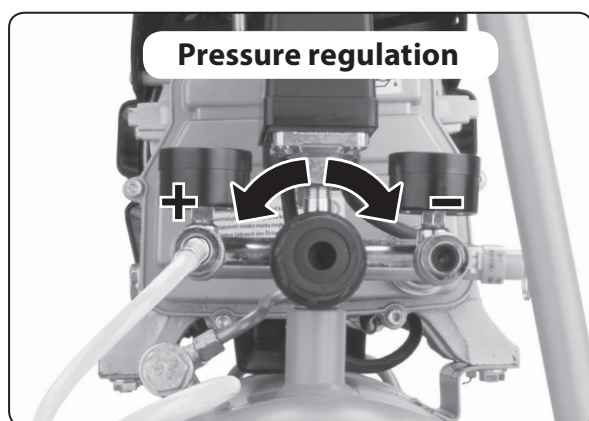
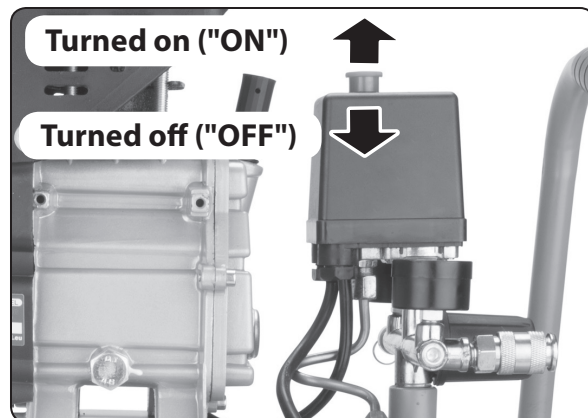

Fig. 6
Fig. 7
8) Turn the regulation knob in the direction of the "i" symbol to set a lower pressure, see fig. 6 and then connect the compressor to an el. power source and turn it on by pulling out the power switch as shown in fig. 7.
- 9) **To turn off the compressor, push down the power switch as shown in fig. 7, disconnect the compressor from the el. power source and then de-pressurise the air lines and pressure vessel of the compressor by holding the trigger on the pneumatic tool in the pressed position until there is only atmospheric pressure inside the system (necessary to watch the pressure gauge). Alternatively, release residual air pressure inside the pressure vessel by pulling out the pin of the overpressure valve.**